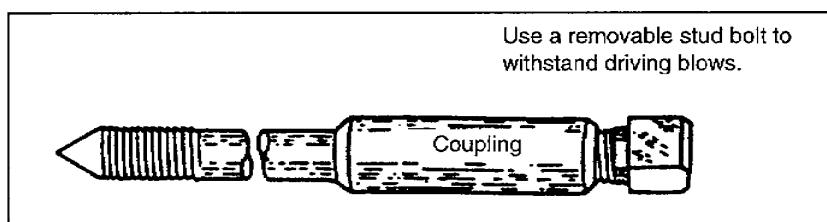

Figure 1-6. Grounding-rod sections
e. For ease of storing, some grounding rods are constructed in 3-foot sections (Figure 1-6).